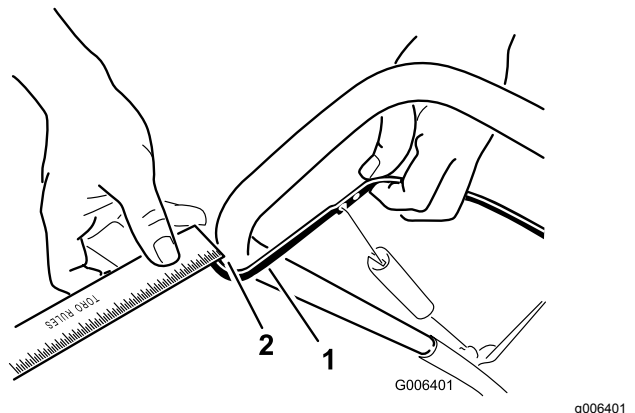

Figure 16
Note: Ensure that a 2 to 3 mm (1/16 to 1/8 inch) gap exists between the control bar and the handle (Figure 16).
Move the control bar back toward the handle to remove the slack in the control cable (Figure 16).
- Move the Z-fitting to a higher or lower hole on the adjuster link as needed to obtain the 2 to 3 mm (1/16 to 1/8 inch) gap between the control bar and the handle (Figure 16).